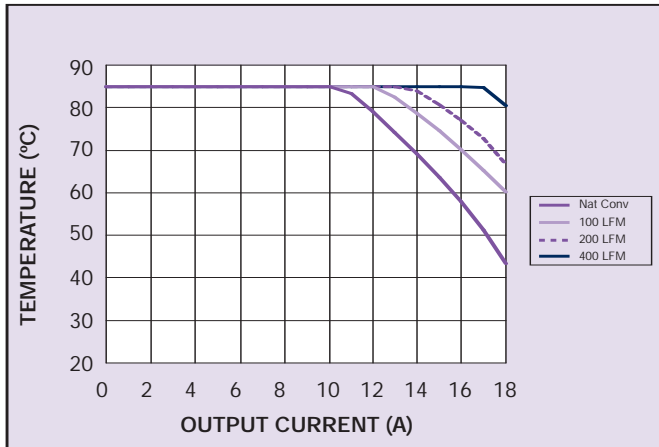

Figure 1 - Safe Operating Area
- See Figures 1, 2 and 3 for safe operating curves.